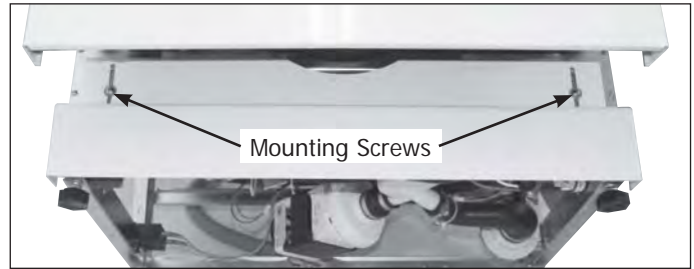
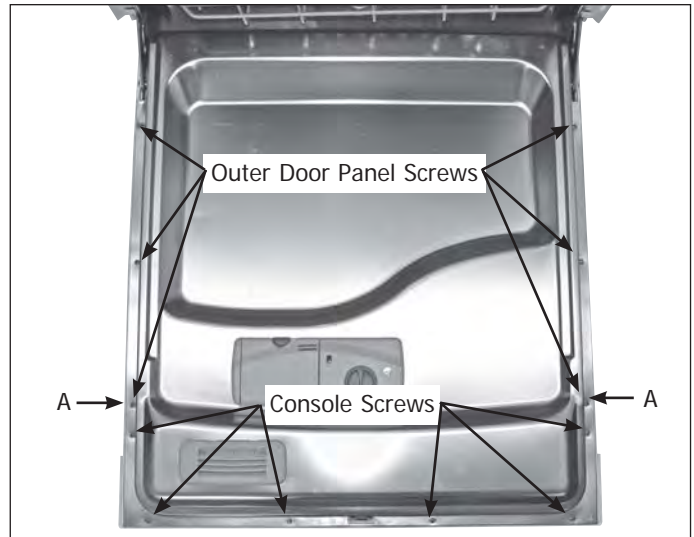

Figure 4-1.
Figure 4-2.
Remove the kickplate by extracting the two screws securing the kickplate to the front cross brace. (See Figure 4-1)
3. The outer door panel and console are secured with screws to the inner door assembly. (See Figure 4-2) The screws labeled "A" in Figure 4-1 pass through the console then fasten into the outer door panel. While holding outer door panel in place, extract the four screws from both sides of inner door panel.
3. Extract the four remaining screws holding the console to the inner door panel. It is recommended to remove the center two screws last, this helps to hold console to prevent damage to wire harness. (See Figure 4-2)